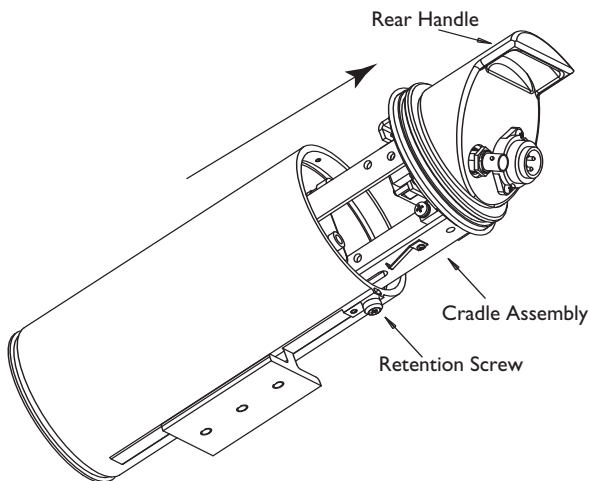

Figure 1 Removing Cradle Assembly
1. To begin removing the cradle from the housing, lower the retention screw completely on the bottom rear of the housing. See **Figure 1**.